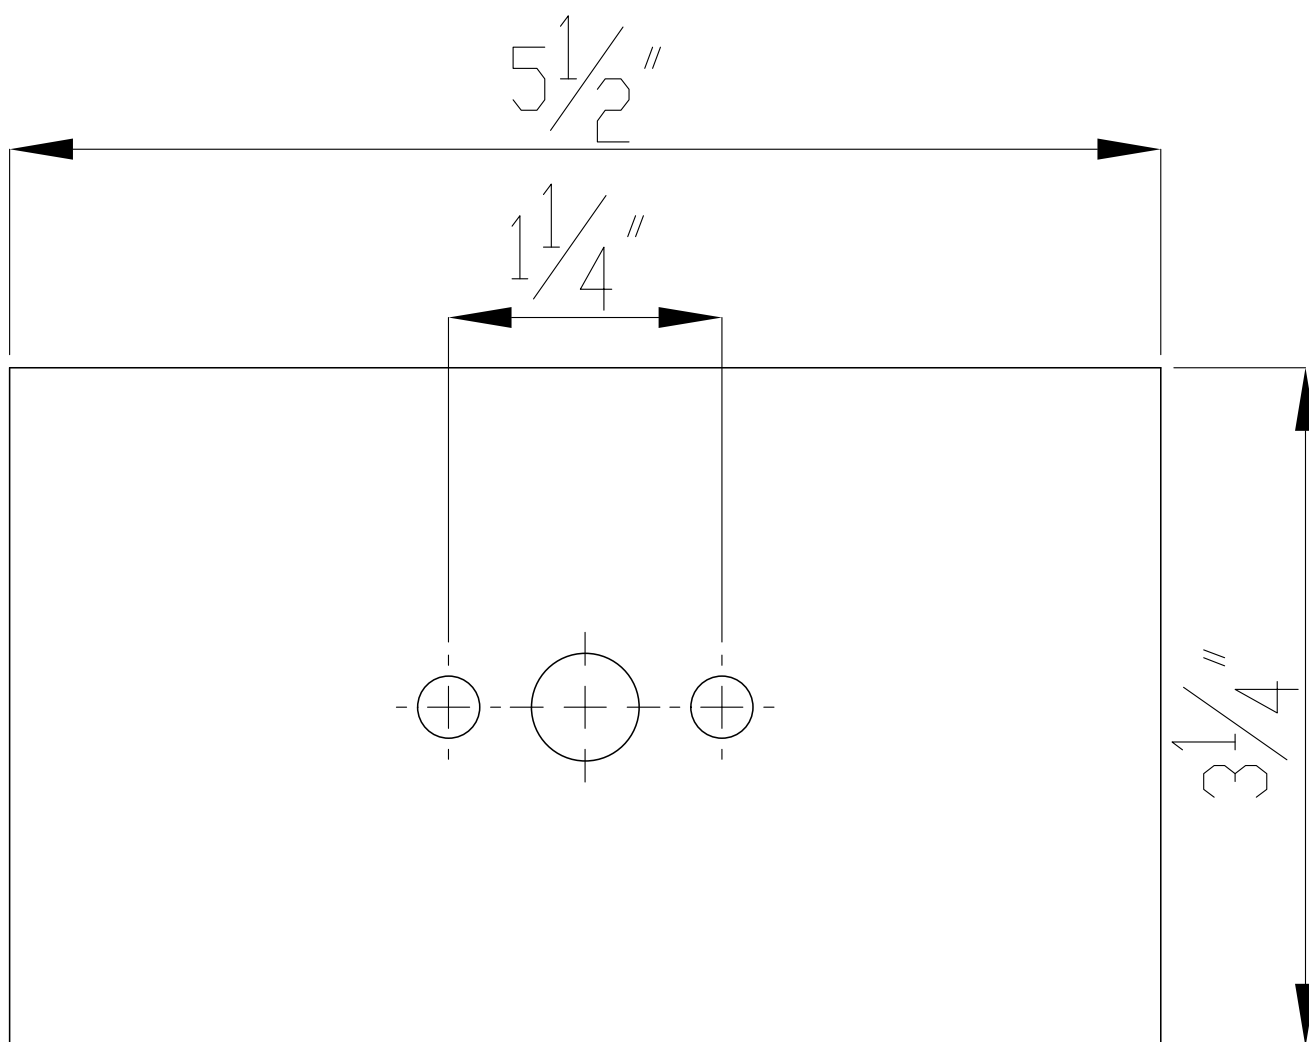

Fig. 1
2. Install a 12VAC output magnetic transformer in an accessible location, and run low voltage outdoor power cable (A) from the transformer to the desired bollard location in accordance with local codes. To avoid excessive voltage drop, you must use power cable with appropriate wire gauge for the distance and load of your system. The bollards can accept an input voltage from 10 to 15VAC.
3. **For Concrete Mounting:** Using the provided temporary template (Fig. 1), cast the anchor bolts (B) and low voltage outdoor power cable (A) into a concrete footing (C). Arrange the anchor bolts so at least 1/2" of threaded and no unthreaded length is exposed above the concrete. Arrange the power cable so that it is in the center of the template, with at least 6" of cable exposed above the concrete.
4. **For Concrete Mounting:** Once the concrete (C) has fully cured, remove and discard the template.
5. **For Concrete Mounting:** Place mounting plate (D) over the anchor bolts (B) and power cable (A). Secure with mounting nuts (E).
6. **For Wood Mounting:** Place mounting plate (D) over the power cable (A) and secure with lag screws (not included).
7. Make appropriate electrical connections using outdoor wire nuts (F):
- a. Connect one of the power cable (A) conductors to one of the fixture's input conductors.
- b. Connect the other power cable (A) conductor to the fixture's other input conductor.
- c. Carefully place the conductors and connections into the post (G).
8. Place the post (G) over the mounting plate (D). Secure with mounting screws (H).